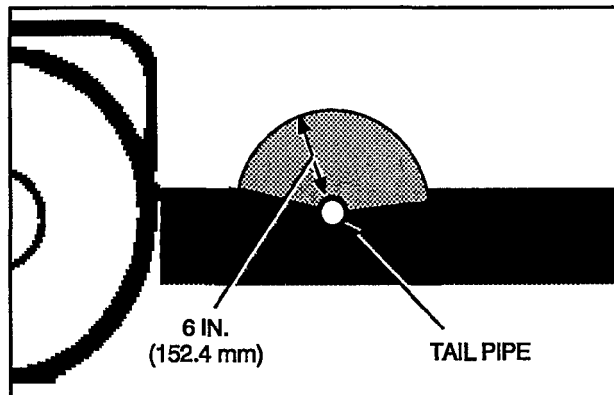

FIGURE 3-17. TAIL PIPE LOCATION
**⚠WARNING** Exhaust gas presents the hazard of severe personal injury or death. Do not terminate the exhaust pipe under the vehicle. The exhaust pipe must not terminate so that any vent, window, or opening into the living area is within a six inch (152.4 mm) radius of the tail pipe as shown in Figure 3-17. Keep all openings closed when the genset is running.
The tail pipe must not terminate so that any vent, window, or opening into the living area is within a six inch radius of the tailpipe as shown in Figure 3-17.